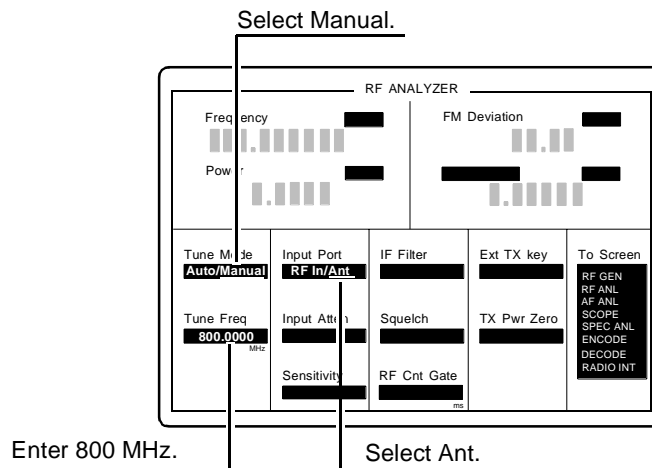

Figure 57 Setting up the RF ANALYZER Screen for the EVM Performance Test
Step 2. Setup the RF ANALYZER screen (see figure 57).